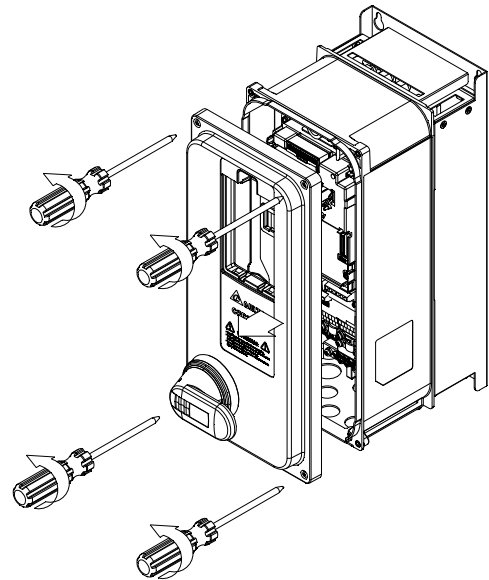

Figure 6-8
- 2) Loosen the screws and press the tabs on both sides to remove the cover. (As shown in figure 6-8)